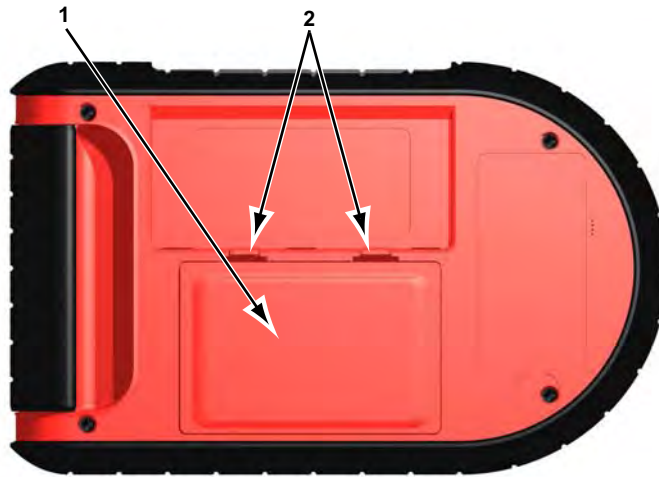

Figure 6-3 Battery cover lock tabs
1. Depress the two battery cover lock tabs and lift off the battery cover (Figure 6-3).